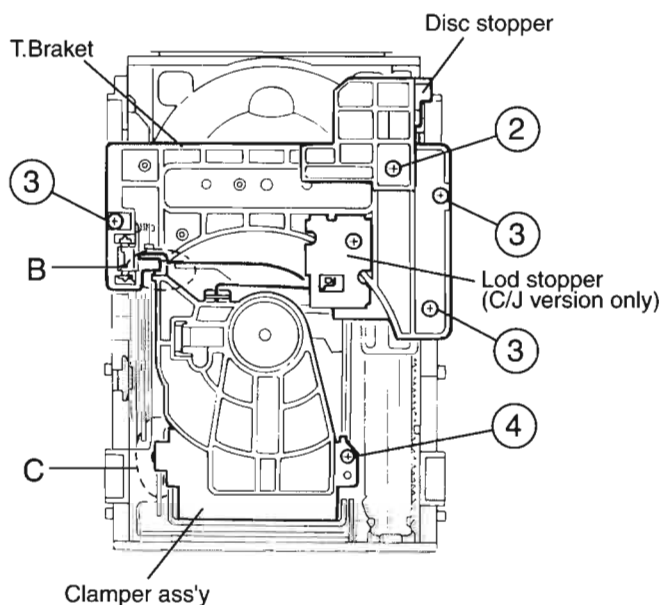

Fig.3
5. Remove the screw 2 retaining the Disc stopper (See Fig.3).
6. Remove the three screws 3 retaining the T.bracket (See Fig.3).
7. Remove the screws 4 retaining the clamper assembly (See Fig.3).